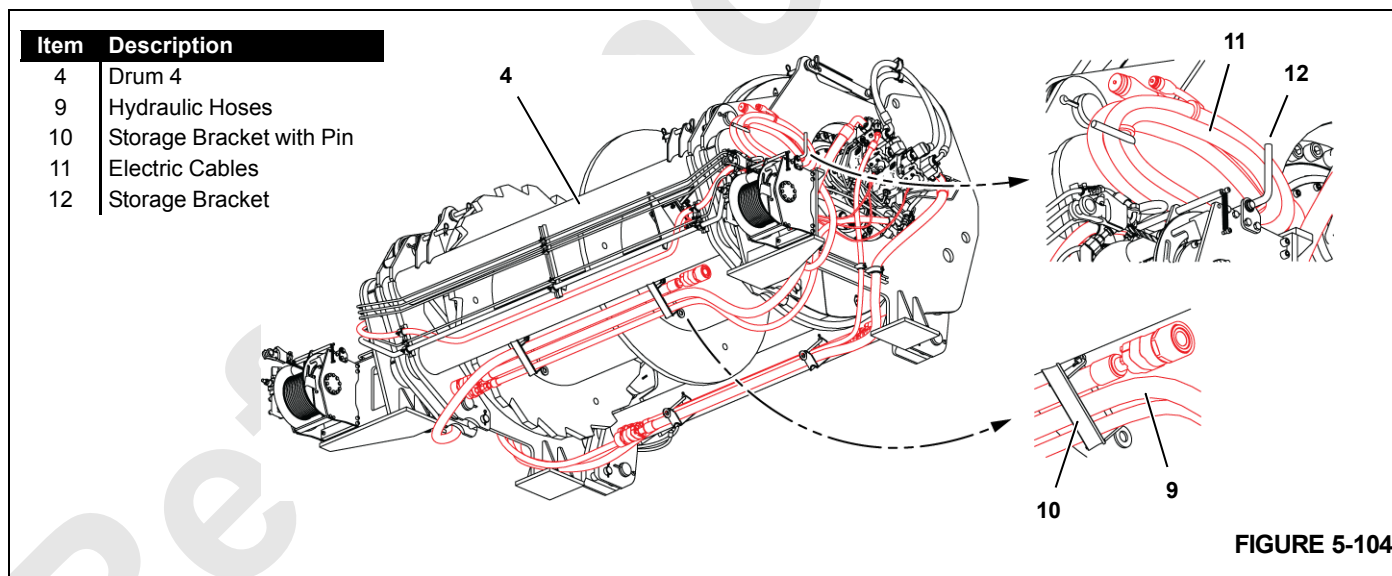

FIGURE 5-104
1. Attach four legs of the chain lifting sling to drum (4) as shown in View D or E.
2. Disconnect two hydraulic hoses (4c, View C) from drum (4) at hydraulic couplers (4d) on drum (2).
5. Lift drum (4) away from drum (2).
7. Store the hydraulic hoses and electric cables on drum (4) as shown in Figure 5-104.
8. Lift drum (4) onto a trailer for shipping